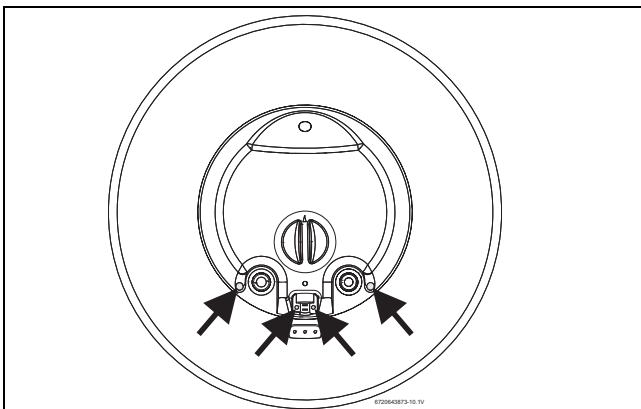

Fig. 12 Screws position
- ▶ Remove the lid of the appliance, by unscrewing the 4 screws (→ Fig. 12).